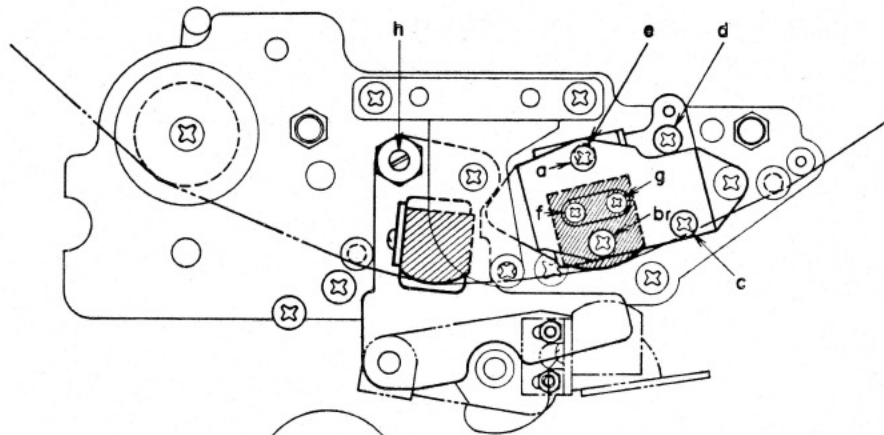

Fig. 6-2
## 1. ADJUSTMENT OF HEAD HEIGHT (SEE FIGURES 6-2 AND 3).
- 1) To adjust, turn screws (a) (b) (c) (Fig. 6-2). During "Normal Play" position so that the upper edge of the upper core of the Playback/Rec Head is the same height as the upper edge of the tape. Adjust by turning screw (d) (Fig. 6-2) during "Reverse Play" position so that the lower edge of the lower core of the Playback/Rec Head is the same height as the lower edge of the tape.